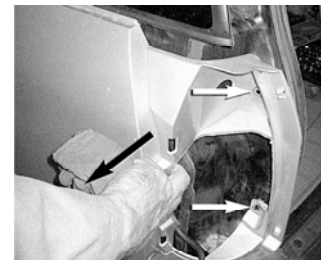

FIG. 2
4. Locate and remove the two 10mm nuts within the left (driver's) side tail light opening (Fig. 2). Carefully pull the quarter panel slightly away from the vehicle to allow clearance for the harness and black box.